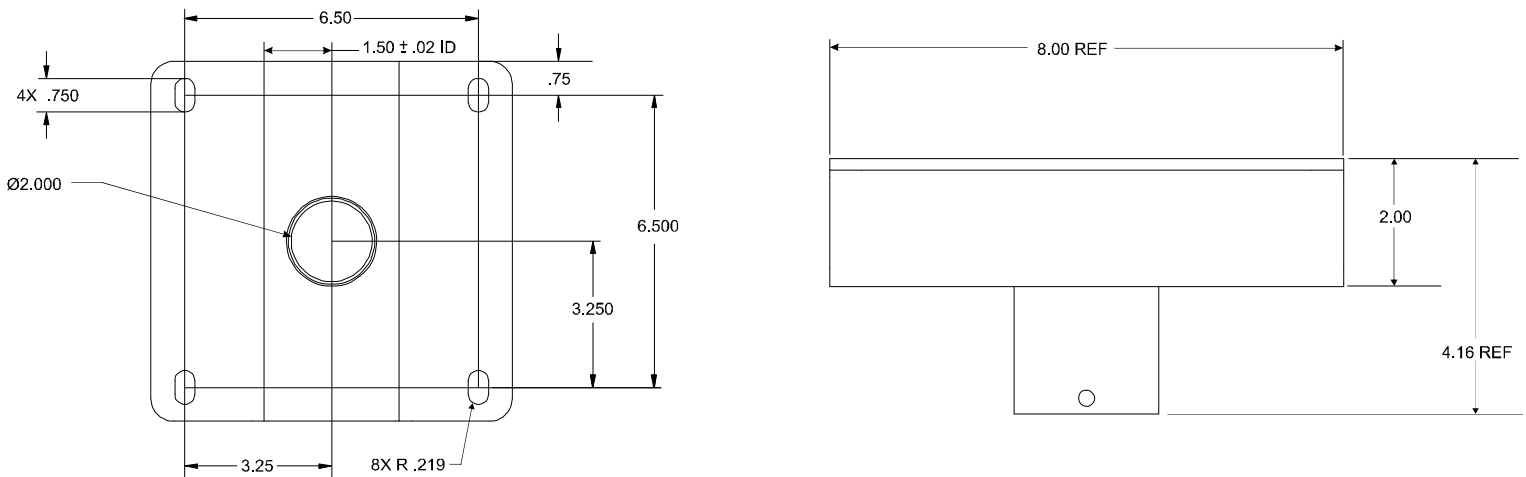

Figure 1. CMA-330 Ceiling Plate
1. Securely install the ceiling plate to the ceiling or ceiling joists (**NOTE: SEE WARNING!!**) Bolt hole spacing is shown on Figure 1.